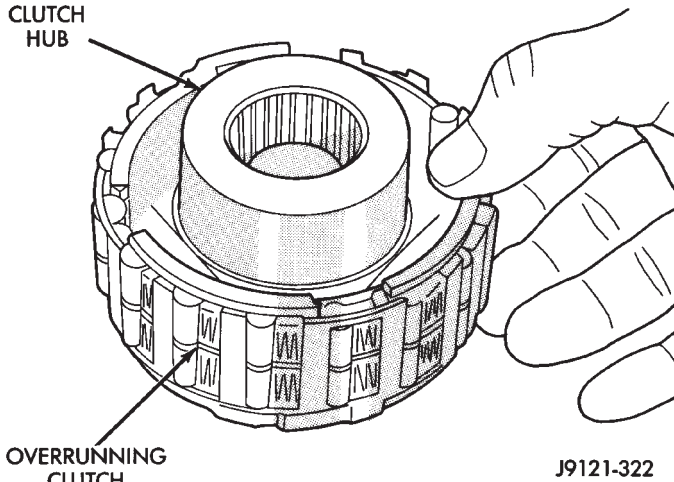

Fig. 40 Assembling Overrunning Clutch And Hub
(10) Install overrunning clutch on hub (Fig. 40). Note that clutch only fits one way. Shoulder on clutch should seat in small recess at edge of hub.